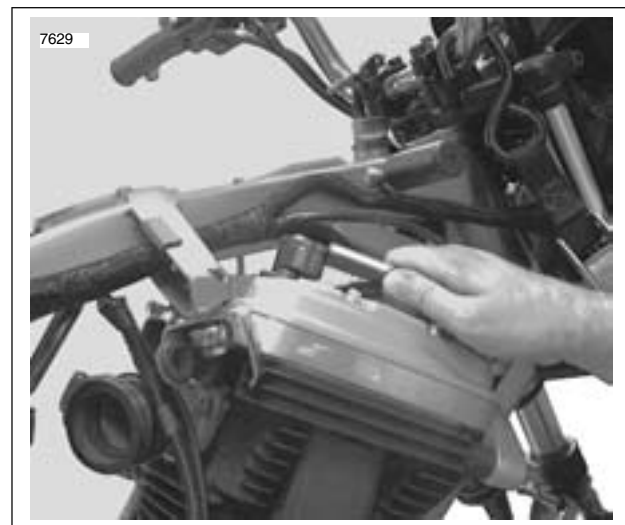

Figure 3-42. Install Crankcase Breather Hose
29. See Figure 3-42. Install crankcase breather hose and crankcase breather into rocker box grommet.